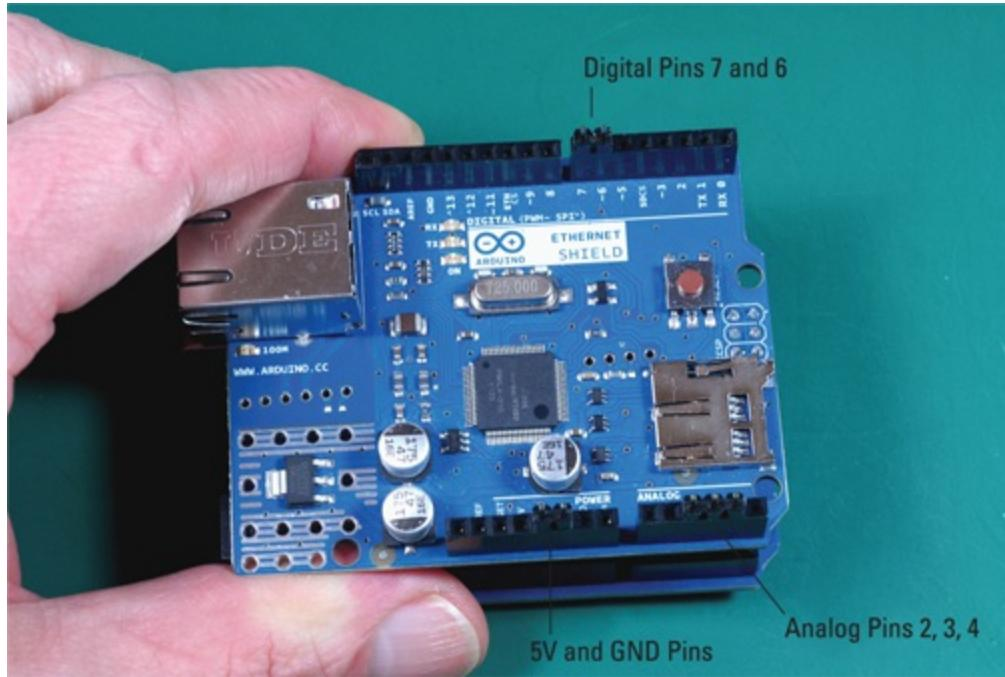

Figure 12-11: Using your Arduino to hold your pin headers securely for soldering.
- 2. Insert the pins into the header sockets on your Arduino, as shown in Figure 12-11.**